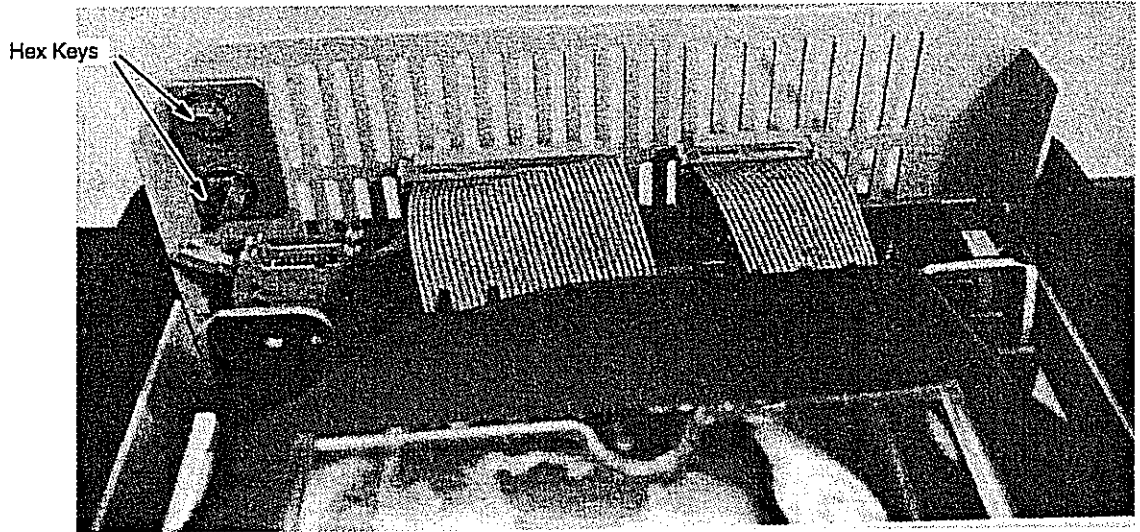
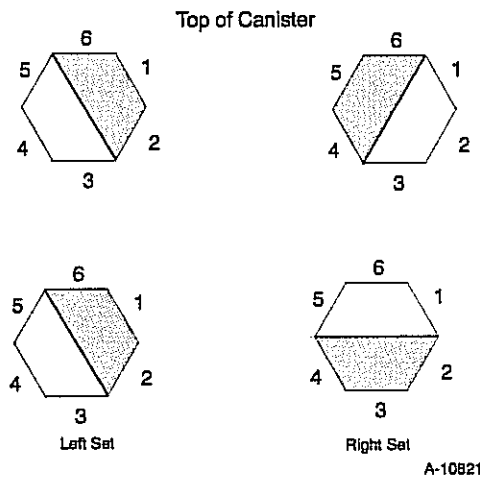

Figure 7-51. DR-1 DataShuttle (Inside Back View)
Figure 7-52. DR-1 Keying Example
6. Look inside the drive. Position the hex sleeve (refer to Figure 7-51) according to the combination assigned to that drive. An example of keying is shown in Figure 7-52. The combination in the example is 1/1 (left set of keys) and 5/3 (right set of keys).